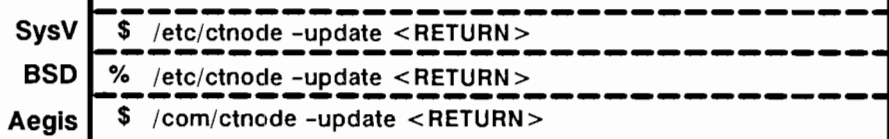

Figure 9-10. Cataloging All New Systems on the 802.3 Network
- 2.** Catalog all new HP Apollo systems on the 802.3 network by typing the **ctnode** command as shown in Figure 9-10.